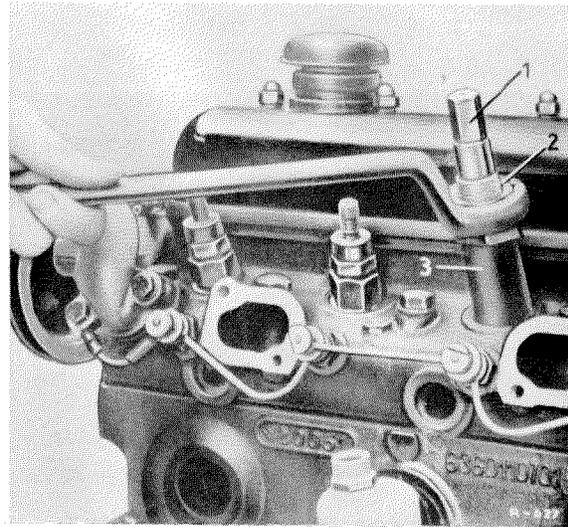

Figure 01-1/2
Now unscrew the threaded ring by turning the keyed sleeve (3) (see Figure 01-1/2).
9. Extract the pre-combustion chamber with the Extractor Part No. 6365890133. For this purpose screw the pressure spindle (1) (see Figure 01-1/3) into the pre-combustion chamber as far as possible, then turn the lifting socket (6), so that the cutout (2) of the lifting socket corresponds truly to the groove (3) in the cylinder head and therefore also to the nose of the pre-combustion chamber. Now extract the pre-combustion chamber by tightening the hex nut (5) (see Figure 01-1/3).